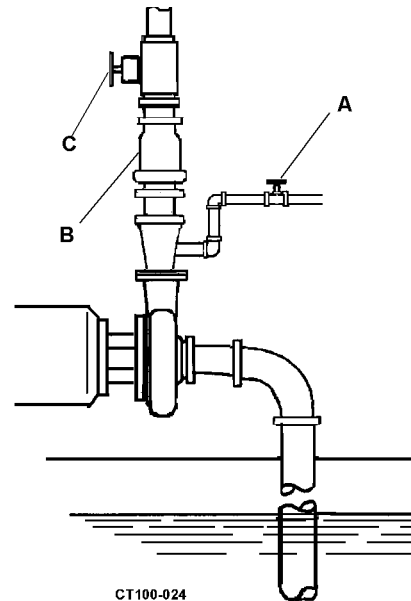

Figure 2 - Pump Above Supply
1. Close discharge valve (Figure 2, item C) and open air vents.
2. Open the valve installed in the outside supply line (Figure 2, item A) until liquid flows from vent valves.
*NOTE: Use a check valve system (Figure 2, item B) to keep supply line and pump casing flooded with liquid. Otherwise the pump must be primed before each operation.*